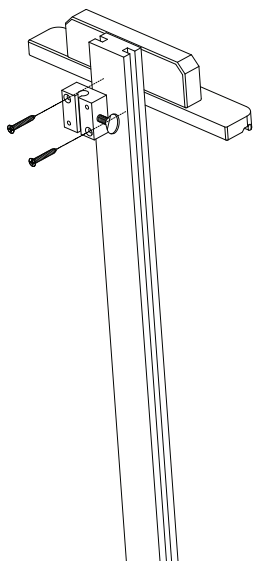
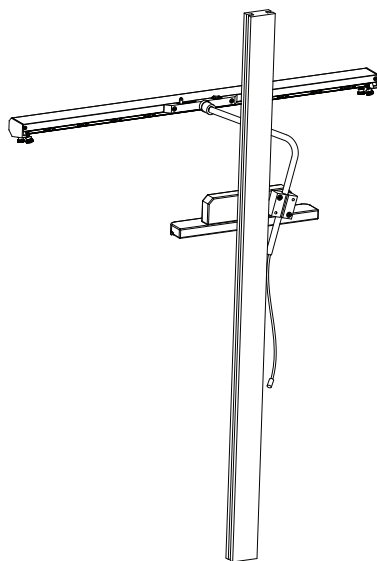
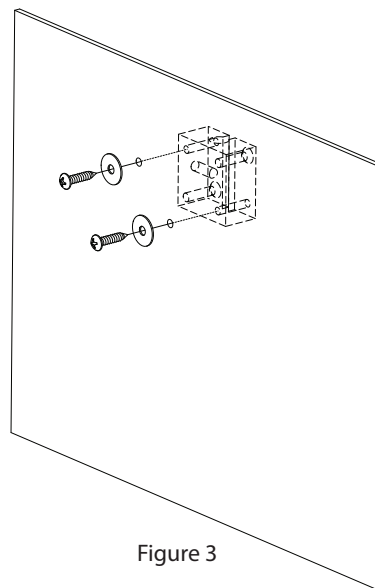
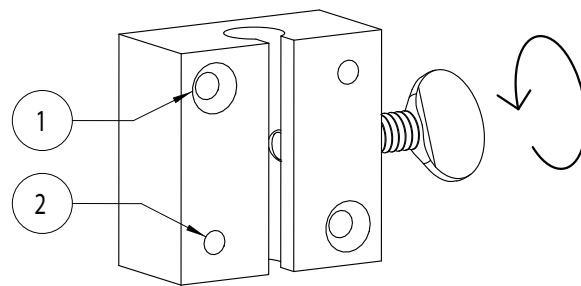

Figure 1
Figure 2
Figure 3
Figure 4
The correct position and height for the Easel Light is shown throughout the images in these instructions. To achieve the most uniform light output, the light should be centered above the canvas at a height of 4 inches. In most cases, this can be achieved by fastening the mounting bracket to the rear of the easel as shown below in Figure 1. If fastening to a location along the centerline of the easel is not achievable without hindering the easel's range of motion, fastening the mounting bracket at an angle in an off-center location can still allow the light to sit in a centered position (see Figure 2).
1. Fastening to a Thick Wood Surface (Figure 1) - Use the included 1.25" flat head wood screws to fasten to a thick wood surface. The screws will fit into the two countersunk holes in the bracket as designated by the #1 in Figure 4. We recommend this mounting solution above all others.
2. Fastening to a Thin Wood Surface (Figure 3) - If the only surface available to mount to is made of thin wood (less than 1/4" thick), we recommend mounting using the included 3/4" panhead wood screws with the included washers. Two holes will need to be made through the wood panel to allow the screws to pass through. Then, fasten the screws into the plastic mounting bracket holes designated as #2 in Figure 4. When completed, the wood panel should be sandwiched between the washers and the plastic bracket.
4. Attach the fixture to the mounting bracket by sliding the arm in vertically. Lock the arm in place by tightening the thumb screw shown as indicated in Figure 4.